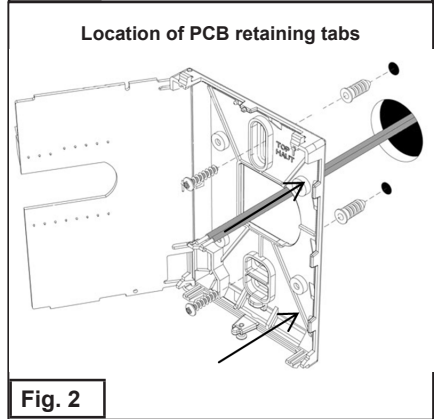

Fig. 2
1. Swing open Room Controller PCB to left by pressing PCB locking tabs (Fig. 2).
6. Insert screws in mounting holes on each side of base (Fig. 2).